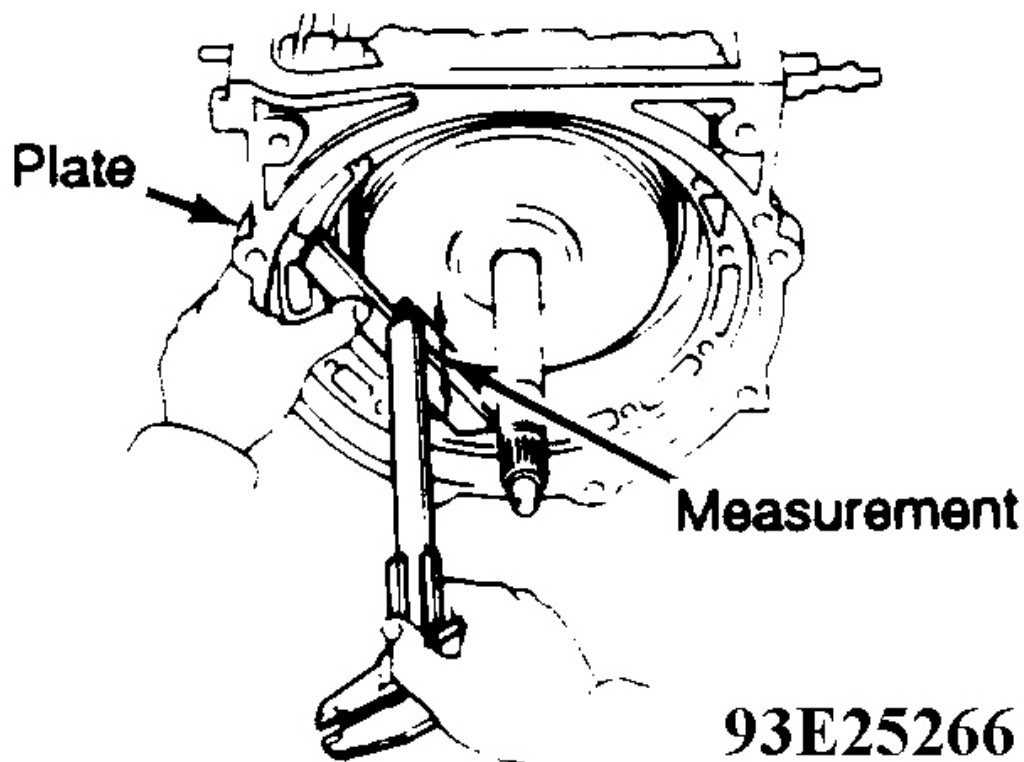

Fig. 54: OD Planetary Gear, Direct & One-Way Clutch Installation
31. Position Plate (09350-06090) on installation surface of oil pump. Using calipers, measure distance between top of plate and OD clutch drum. See **Fig. 54** . If distance corresponds to measurement taken during disassembly, OD planetary gear, OD direct clutch and one-way clutch assembly is installed properly.